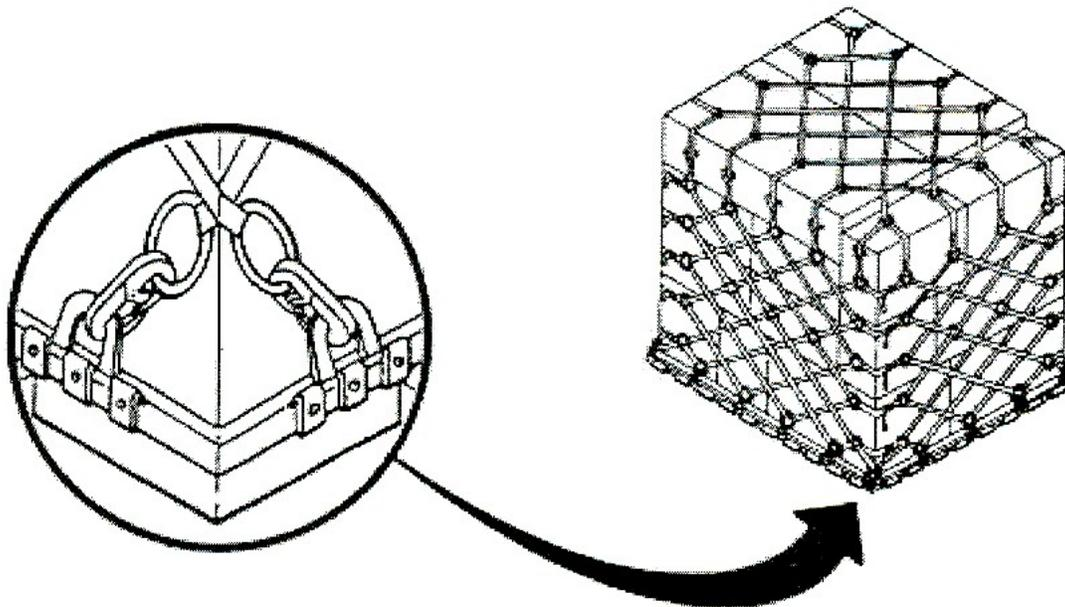

Figure 3-22
- h. Secure the ends of the straps, tuck them in to ensure they will not become caught in the rail system when loading the pallet aboard the aircraft or in storage (see Figure 3-22).